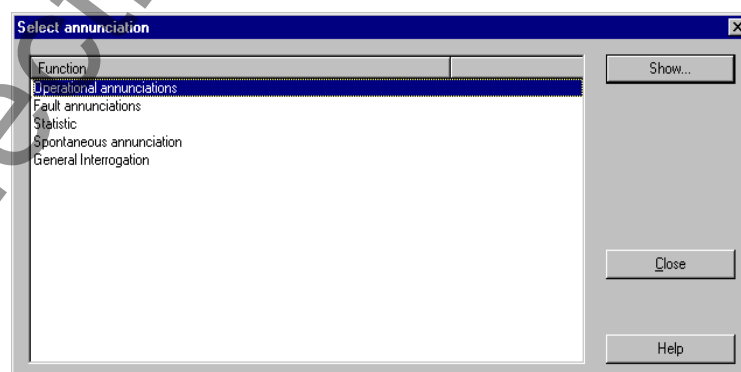

Figure 6-4 Select annunciation window in DIGSI of the bay unit
- ❑ Open the window Select annunciations (Figure 6-4, page 215).